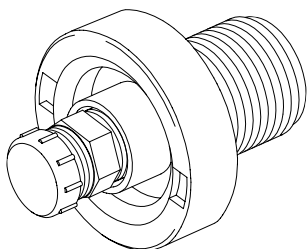

figure 9
2. Locate the Black drain/fill valve found in behind the door on a Portable model or under the step on the Protec model. See *Figure 9*. Remove the safety cap from the fitting threaded into the black drain/fill.